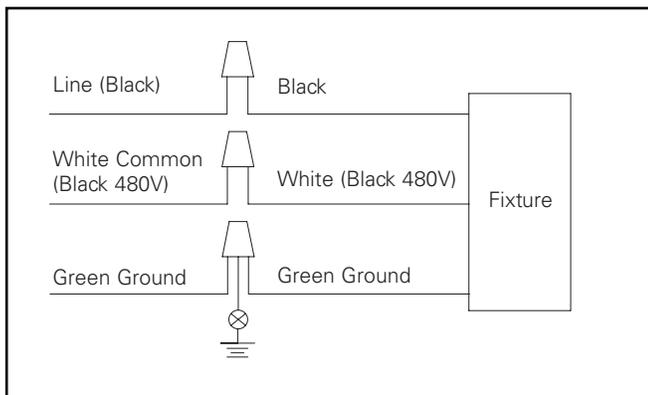

Figure 11.
- Make wire connections inside the mounting arm. Refer to wire diagram for power connections. Connect the supply wires to appropriate luminaire leads. (Figure 11.)